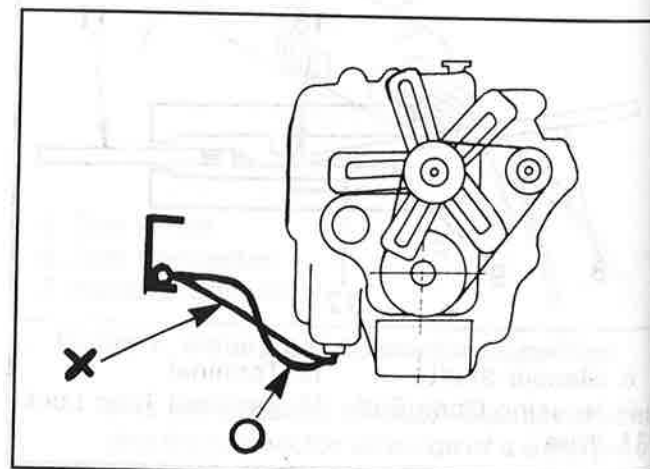

Figure 16. Wiring Harness (4)
5. The wiring harness between engine and chassis should be long enough to prevent chafing or damage due to various vibrations (figure 16).